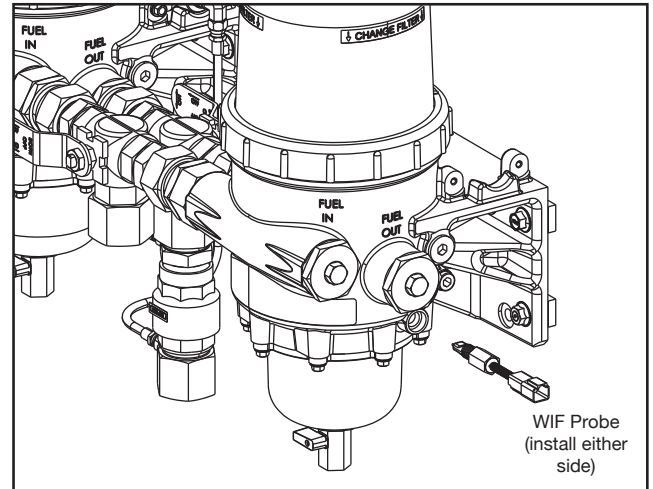

Figure 2 - WIF Probe Installation
1. Install the WIF Probe (**SP1328**) into the side of the Industrial Pro® (see Figure 2). Torque to 20-24 in-lbs (2.3-2.7 N·m).